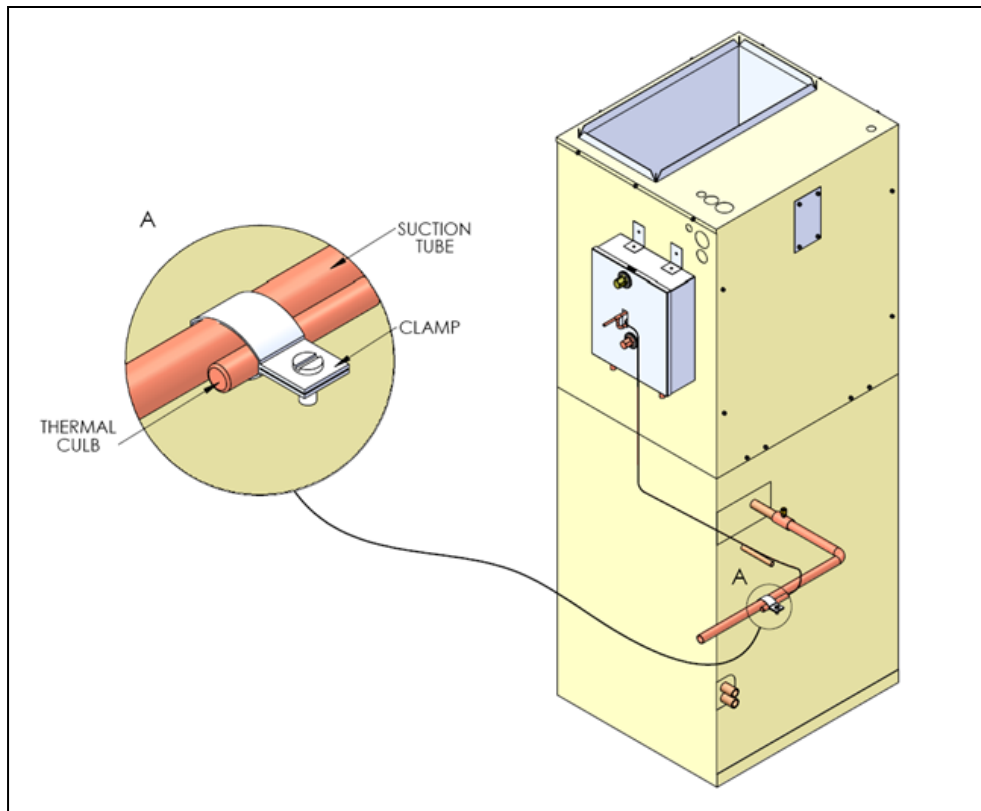

Figure 11. Clamping the Thermal Bulb
Step 4: Clamp the thermal bulb firmly against the clean suction tube extension and parallel to it, as shown in Figure 11.